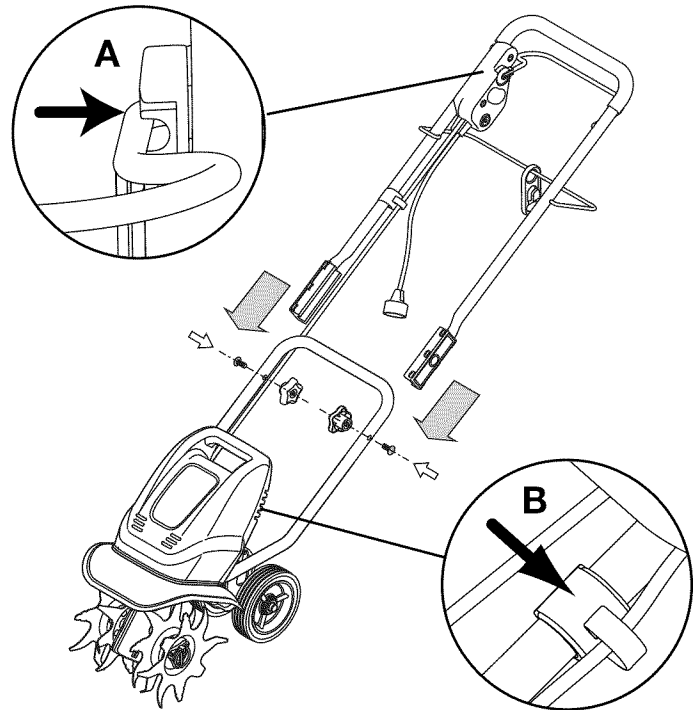

Fig. 1
1. When you unpack the unit, hold the handlebar in the position shown in Figure 1 and slide it onto the lower bars.
5. Check to make sure the bail is assembled into the switch assembly (Fig. 1, Inset A).
6. Clip the switch cable to the cable restraint on the lower bar as shown in Figure 1, Inset B.